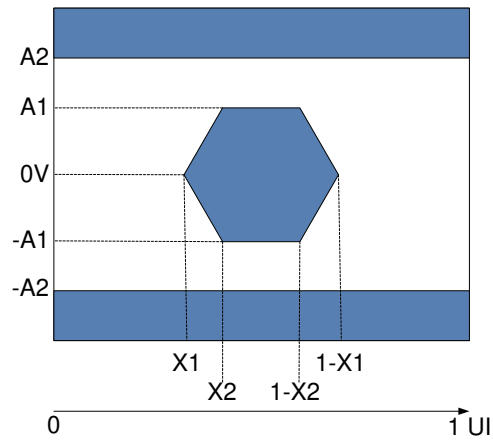

图 5-11. HSSI Eye Characteristics
- (1) All power supply connections are required to operate the DMD: V_{DD}, V_{DDA}, V_{OFFSET}, V_{BIAS}, and V_{RESET}. All V_{SS} connections are required to operate the DMD.
- (2) All voltage values are with respect to the ground pins (V_{SS}).
- (3) To prevent excess current, the supply voltage delta | V_{DDA} - V_{DD} | must be less than the specified limit.
- (4) To prevent excess current, the supply voltage delta | V_{BIAS} - V_{OFFSET} | must be less than specified limit.
- (5) Supply power dissipation based on three global resets in 200μs.
- (6) LVC MOS input specifications are for pin DMD_DEN_ARSTZ.
- (7) LVC MOS output specification is for pins LS_RDATA_A and LS_RDATA_B.
- (8) Refer to 图 5-11, Receiver Eye Mask (1e-12 BER).
- (9) Defined in the *Recommended Operating Conditions*
- (5) See 图 5-11 for rise time and fall time for HSSI Eye Characteristics.